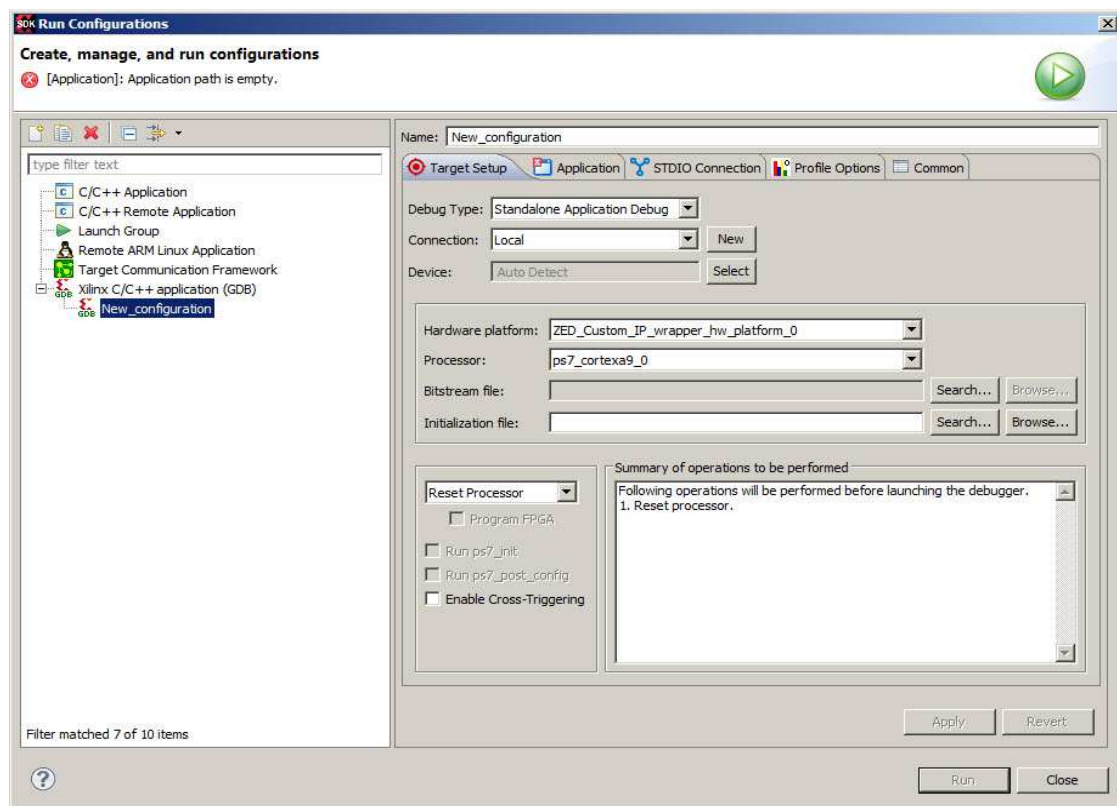

Figure 50: Run Configuration
5. **Select** “Run → Run Configurations”. A new window will appear as seen in **Figure 50**.
6. **Double Click** on Xilinx C/C++ application (GDB) and a new configuration will be created “New Configuration” along with its setting menu as seen in **Figure 50**.